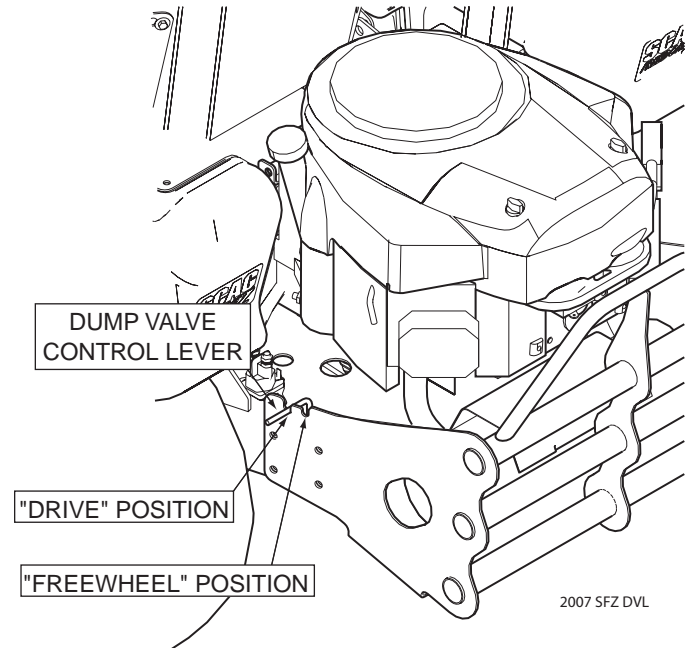

Figure 4-2 Dump Valve Control
11. **Dump Valve Control Levers (Figure 4-2).** Located on the left and right side of the rear bumper, used to "free-wheel" the mower. Rotating the levers forward into the notch allows the unit to move under hydraulic power. Rotating the levers backward to the notch allows the mower to be moved by hand (free-wheeling).
To “free-wheel” or move the mower around without the engine running, place the dump valve levers in the FREE-WHEEL position (Figure 4-2, page 13). Disengage the parking brake and move the mower by hand. The dump valve levers must be returned to the DRIVE position to drive the mower.